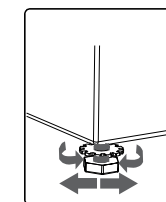

Figure 3
- 4:Adjust by rotating the feet upwards or downwards.(Figure 3)